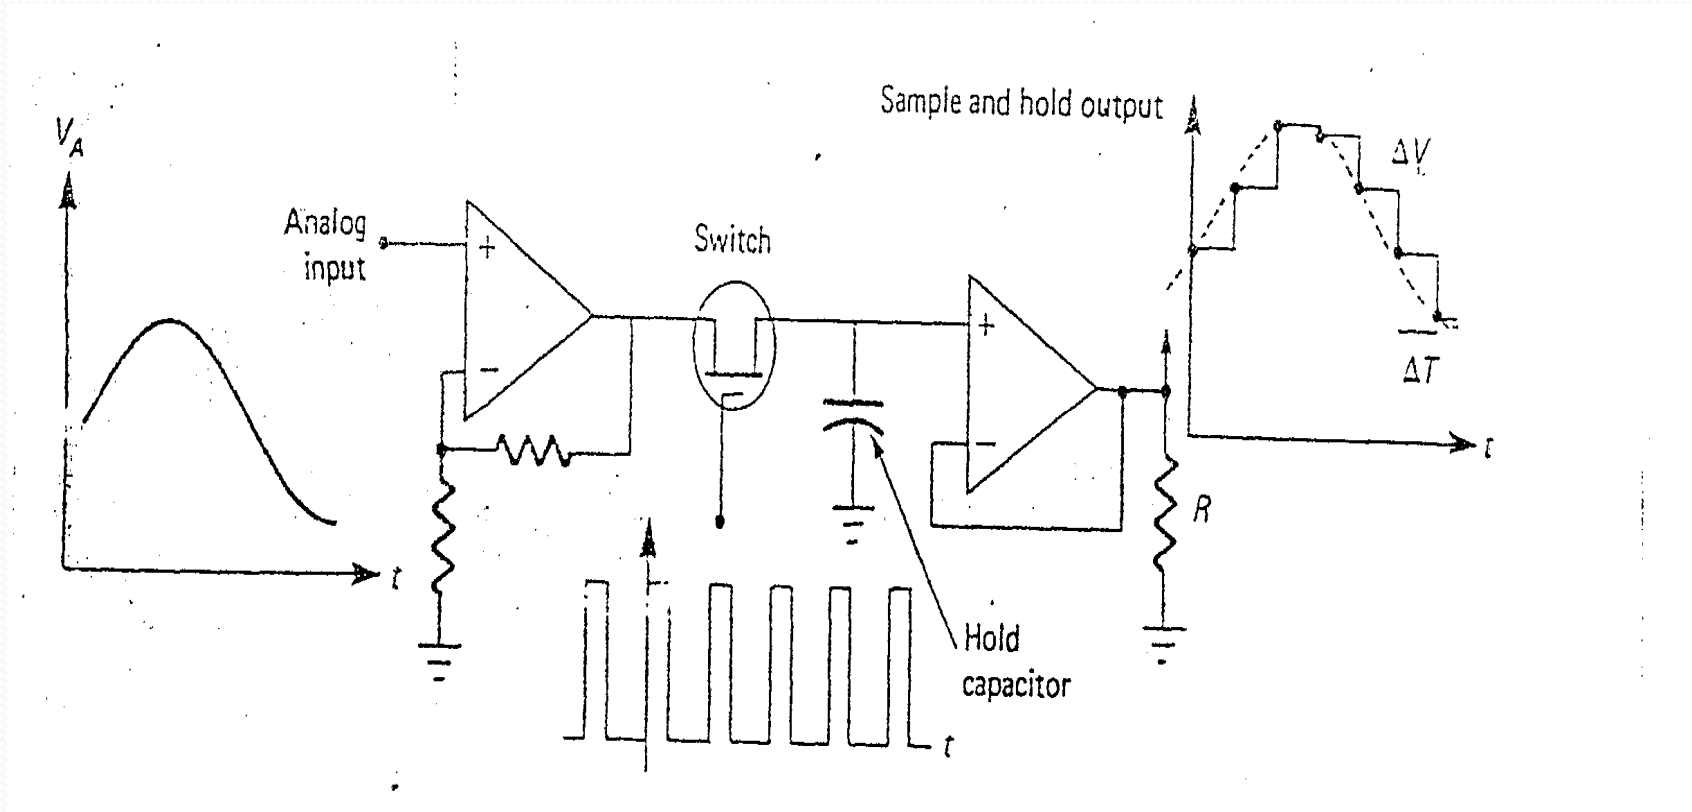

Figure 11-4. Sample-and-hold circuit and flat-top sampling.
- **As seen in Figure 11-4, the instantaneous amplitude of the analog (voice) signal is held as a constant charge on a capacitor for the duration of the sampling period T_s .**
- **To estimate the maximum voltage error possible, determine the maximum slope of the analog signal and multiply it by the aperture time ΔT in Figure 11-4.**